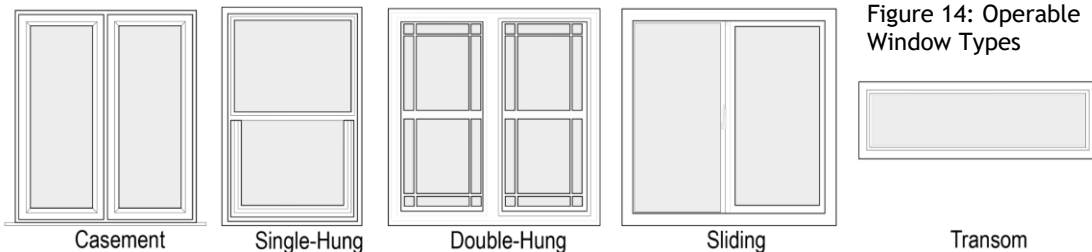

Figure 14: Operable Window Types
- e. Operable windows may be casement, single-hung, double-hung, sliding or transom (Figure 14).